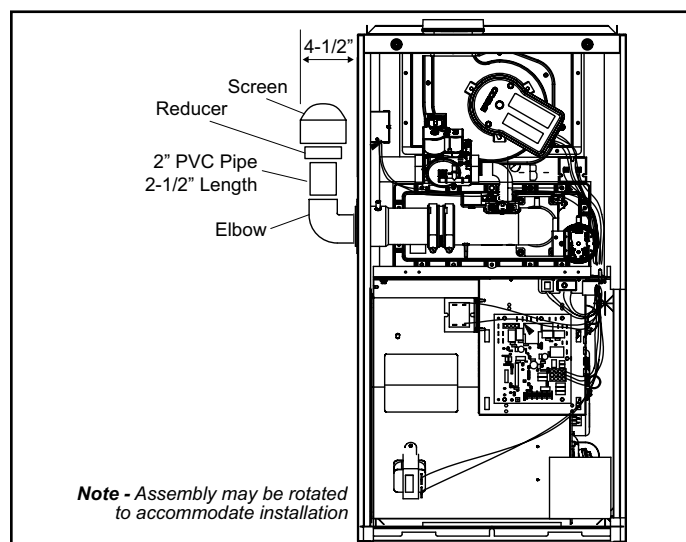
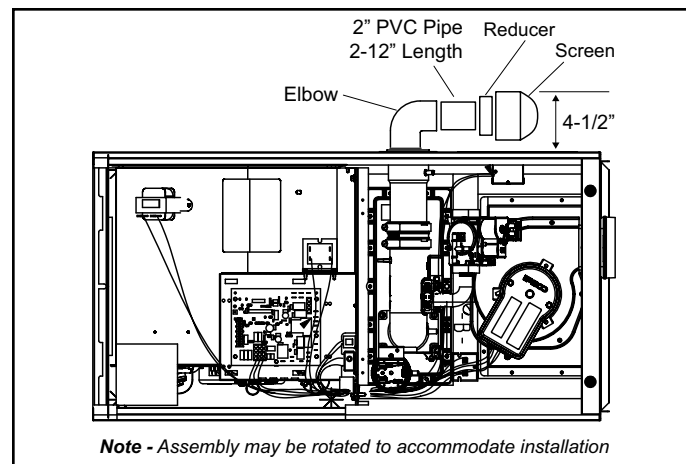

Figure 15. Air Intake Pipe Connections - Upflow
Figure 16. Air Intake Pipe Connections - Horizontal (Right-Hand Air Discharge Shown)
See Figure 15 and Figure 16
3. Tap the 3" to 2" reducer with screen onto the 2" PVC pipe. See Figure 15 and Figure 16.